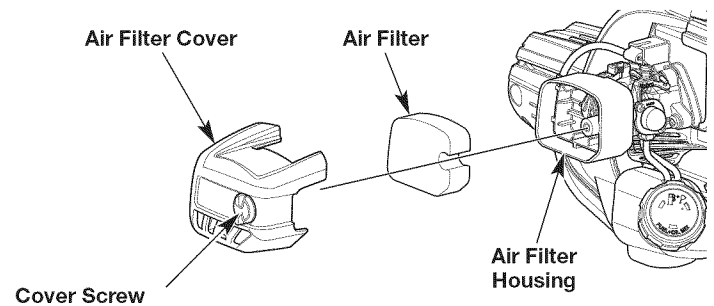

Fig. 21
1. Open the air filter cover by unscrewing the cover screw (Fig. 21).
2. Remove the air filter from inside the air filter housing (Fig. 21).